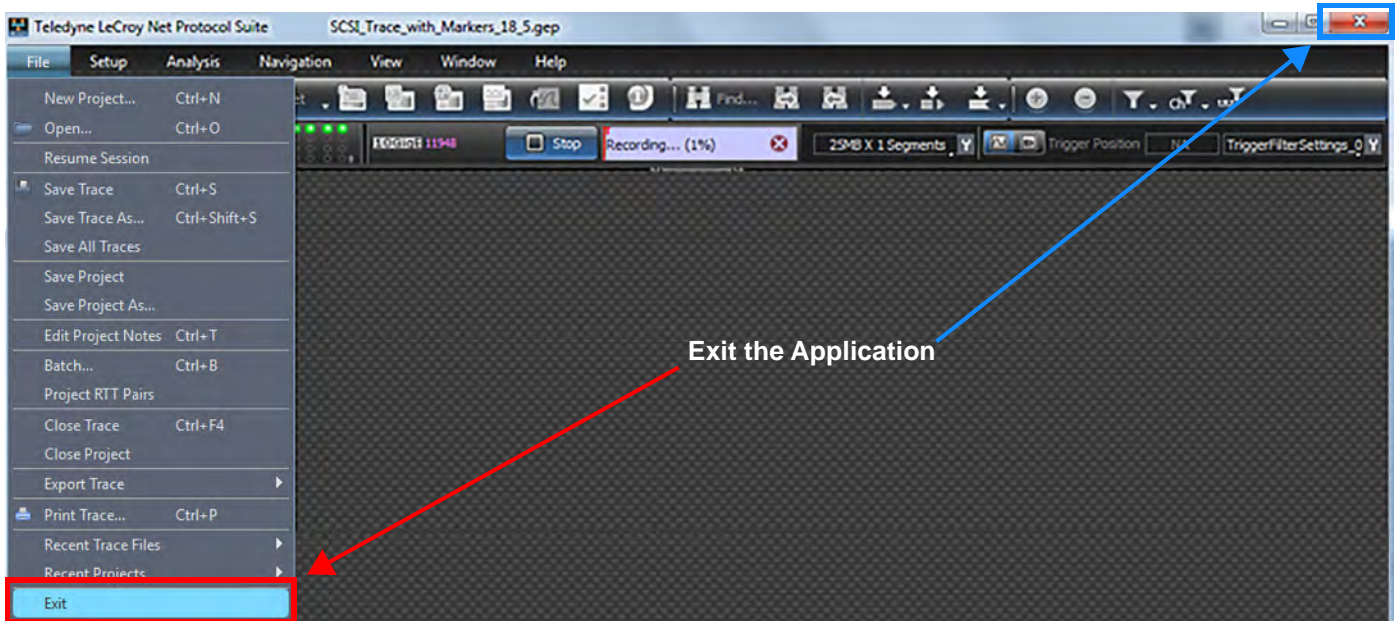

Figure 3.42: Exiting the Application
If you decide to Exit the Application, you can do this one of two ways (Figure 3.42):
1. Select **File** → **Exit** or click the **X** in the upper right corner of the Main Menu (Figure 3.42). The the Abort/Pause Session dialog box appears.